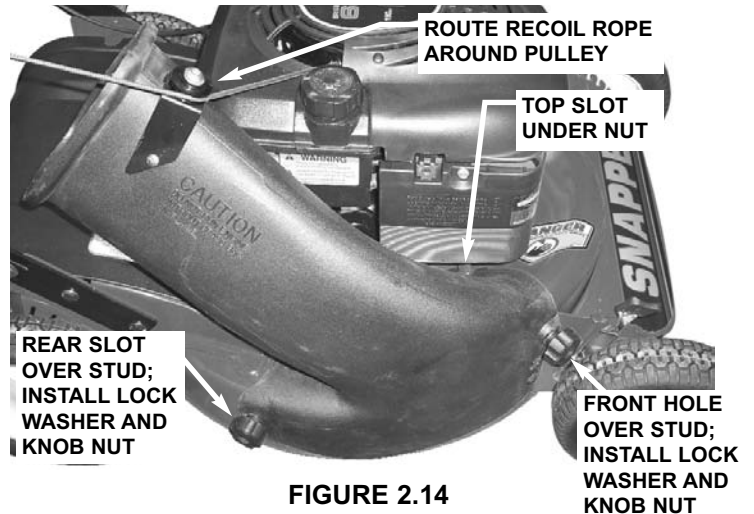

FIGURE 2.14
**STEP 2:** Install grass bag adapter to the deck in place of recycling cover, making sure that: 1) front hole on outside front of adapter fits over stud where front of recycling cover was originally secured, 2) slot on top of adapter slips under restraining nut on top of deck (under right front corner of engine), and 3) slot on bottom rear of adapter slips onto stud behind rear of discharge opening, where rear of recycling cover was originally secured. Install internal/external tooth lock washers and knob nuts onto studs and tighten securely. See Figure 2.14.
**STEP 3:** Route recoil rope around outside of rope guide pulley. See Figure 2.14. (NOTE: Recoil rope may need to be slackened. Refer to "Handle Assembly".)